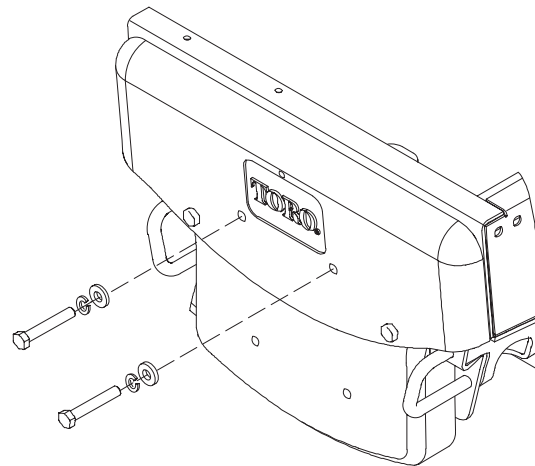

Figure 2
1. Remove the (2) center capscrews, washers and lockwashers securing the standard rear weight to the rear frame (Fig. 2).